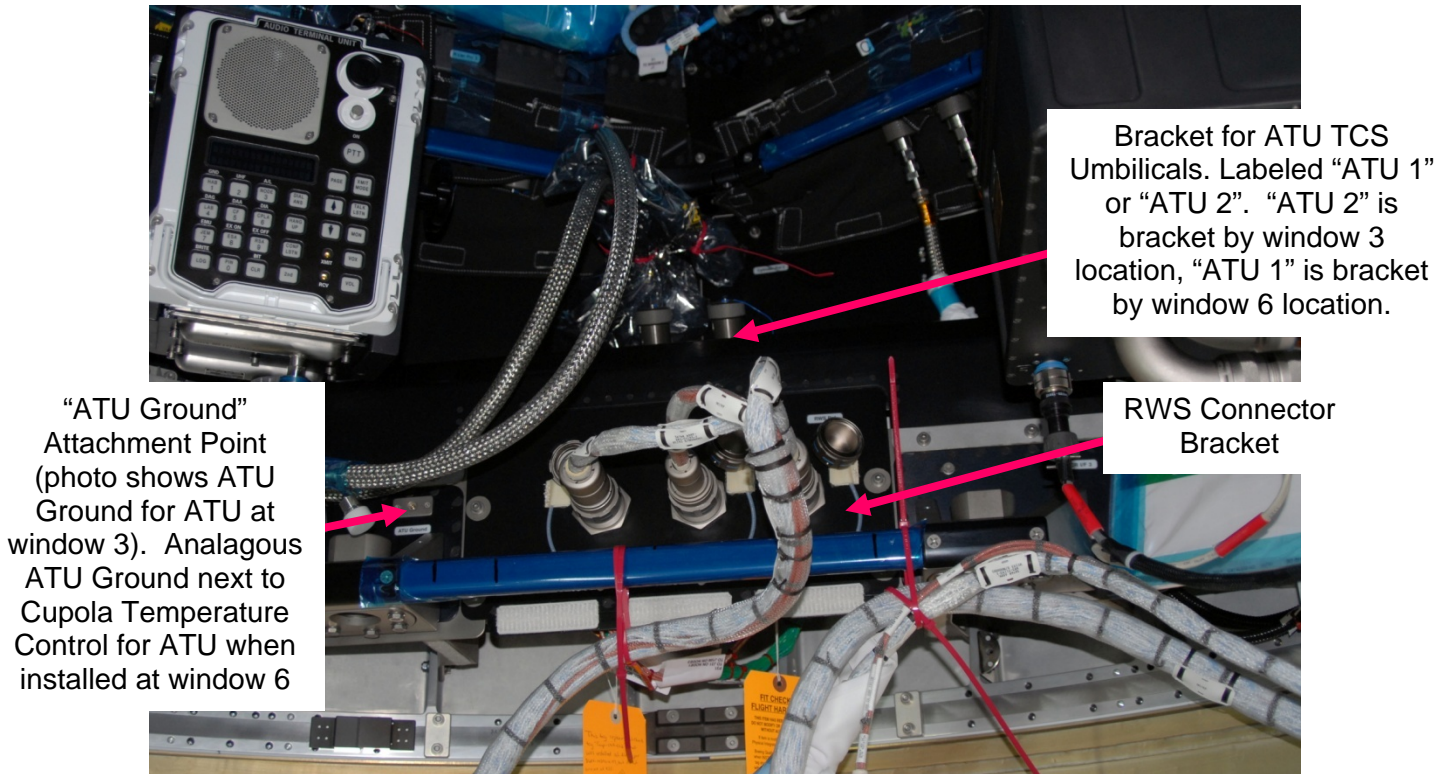

Figure 8. - Location of ATU Interfaces (ATU shown Installed at Window 3 Location).
Refer to Figures 8, 9.
2. There are two ATU Ground attachment points (one for each ATU installation location). When the ATU is installed at Window 3, the ATU Ground attachment point next to the RWS Connector Bracket (CUP1F1) is used. When the ATU is installed at Window 6, the ATU Ground next to the Cupola Temperature Control (CUP1A1) is used. Refer to Figure 8.
Refer to Figure 8.